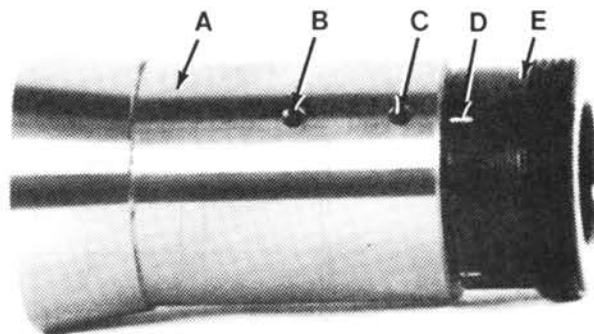

Figure 2 - Spindle Adapter Components
1. Loosen key screw "C", Figure 2, enough to permit separation of draw tube "E" and reducer bushing "A".